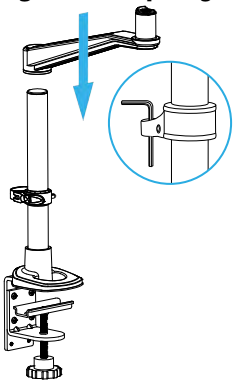

Figure 15
4. Slide the **Swivel Arm** down the **Pole** until it's sitting on top of the **Cable Management Clip**. The **Hex Key** can be stored on the **Cable Management Clip**. (Figure 15).